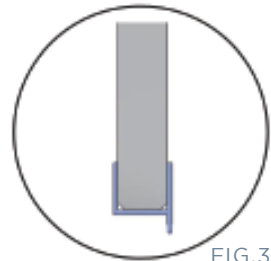

FIG.35
- If required, slide drip seal onto bottom of door and trim fin (FIG 35). Seal should just miss top of base when door is shut. If gap between door and floor is too large, seal can be lowered up to 6mm.